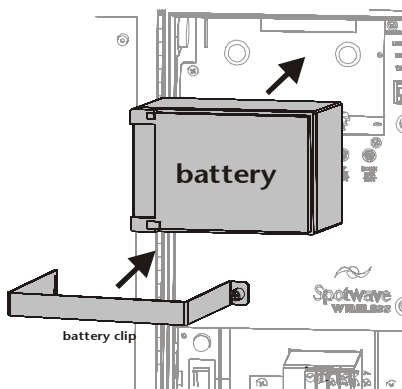

Figure 4.4 Battery installation
5. Loosen the back-up battery clip screws and remove the battery clip - see Figure 4.4.